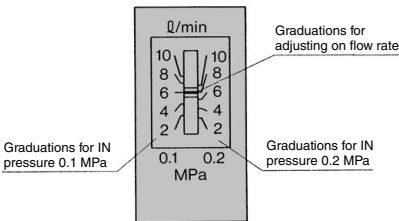

Fig. 1 Window name plate
5. The indicator on the window name plate (Fig. 1) is only a guideline. For precise setting, mount a flow meter on the downstream side of the flow switch, and set the level. Also, when setting levels with a low flow rate at pressures of 0.2 MPa or more, there may be interference between the indicator needle and the scale plate. In such cases, detach the indicator needle and scale plate before setting. After setting, the indicator needle and scale plate can be reattached in positions of your choice.